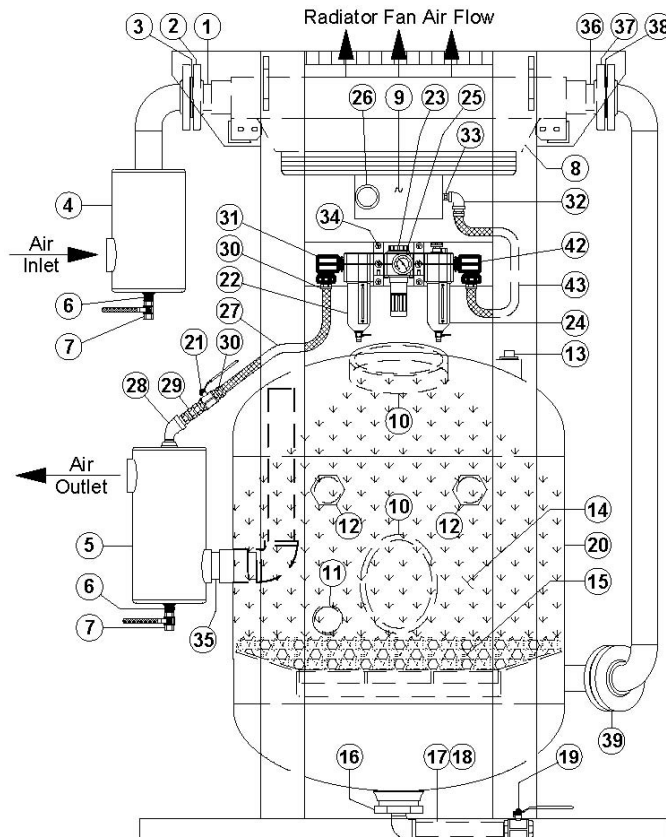

Figure 7.1 – Typical AirPrep Dryer System
7.1.2. Open the pre-filter drain ball valve (#7) to check for air flow. No air flow indicates that the AirPrep System is depressurized. See Figure 7.1.